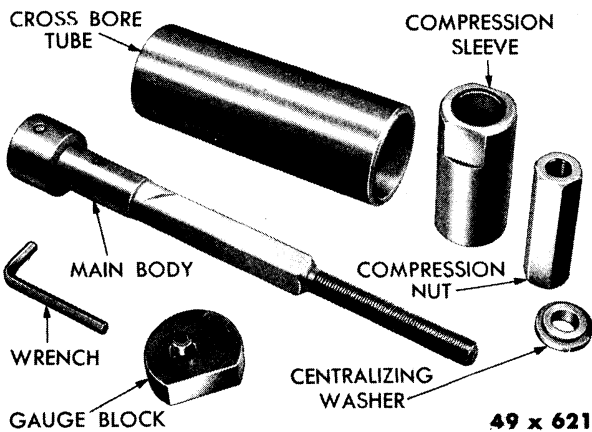

Fig. 30—Special Tool Set C-758-D2
Place bearing cups in position in carrier. Refer to Figs. 30 and 31 and proceed as follows:
With use of special Tool C-788-D2 (Fig. 30), items 1 and 2, pinion bearing pre-load and pinion setting can be predetermined, thus saving considerable time and labor incurred in the old trial and error method. Also, pinion bearing cups can be installed with this tool.